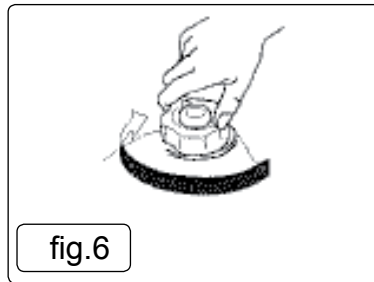

fig.6
- 4.7.5. Remove the fuel tank cap fig.6.